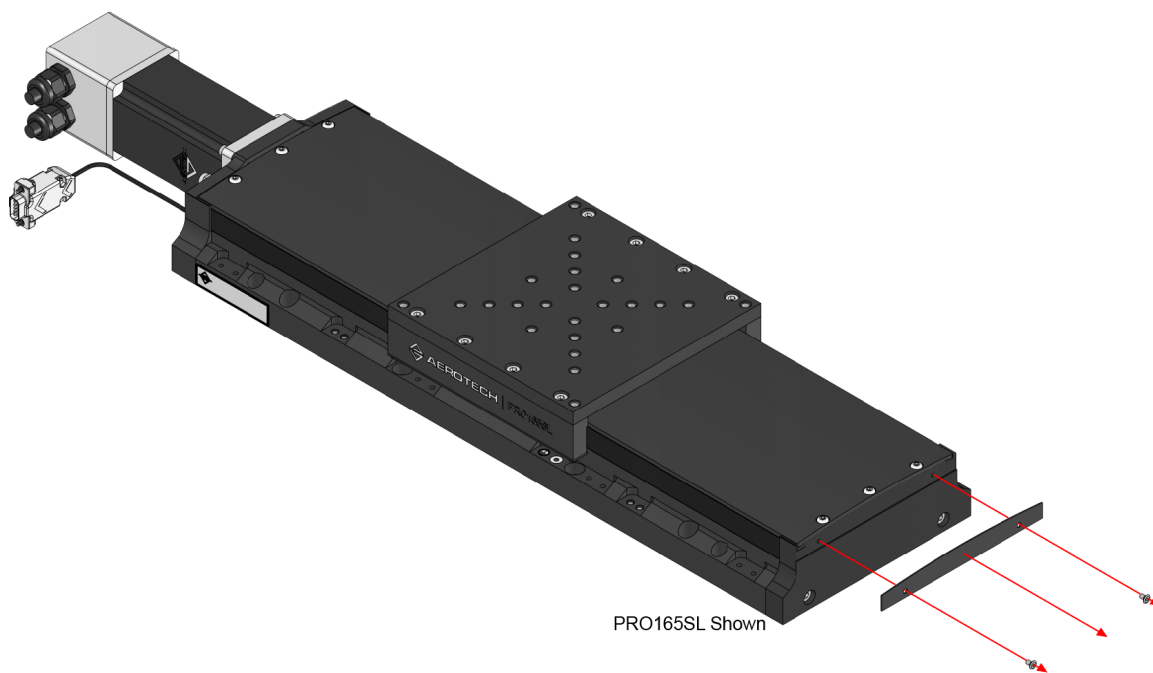

Figure 4-1: Hardcover Removal Procedure (Step 2)
2. Remove the cover attached to the rear end plate on the side opposite of the motor (Figure 4-1).